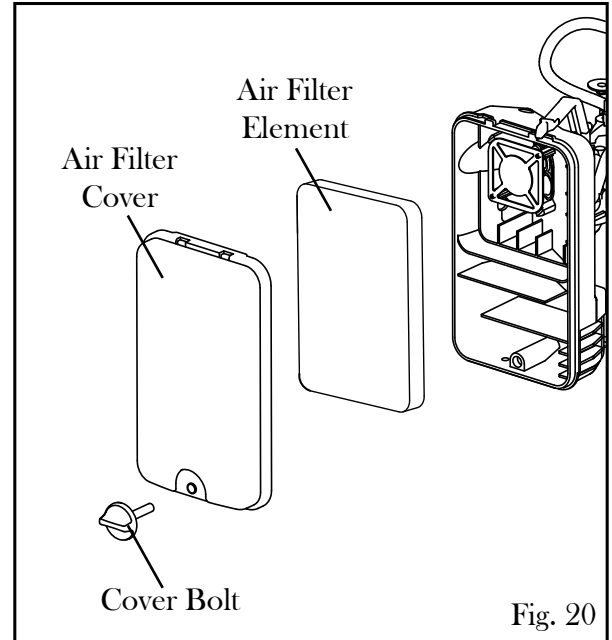

Fig. 20
1. Unscrew the cover bolt (Fig. 20) and remove the air filter cover. Remove the air filter element from the casing.